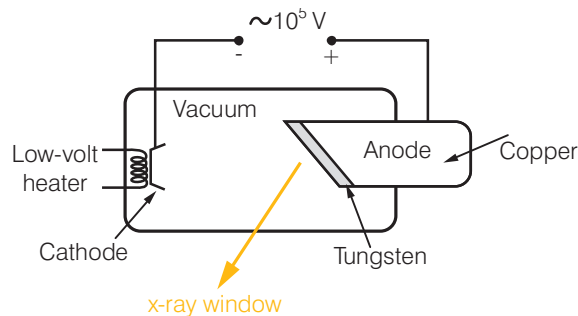

Figure 5.3 X-ray tube.
The X-ray machine (Figure 5.3) is also a vacuum tube device. Electrons are released from the cathode by thermionic emission and are then accelerated through a p.d. of the order of 100 kV so as to hit the anode at an extremely high speed. When such fast-moving cathode rays are suddenly stopped, X-rays are produced.
- Why is the anode of the X-ray tube drawn in Figure 5.3 made of copper with a tungsten tip?